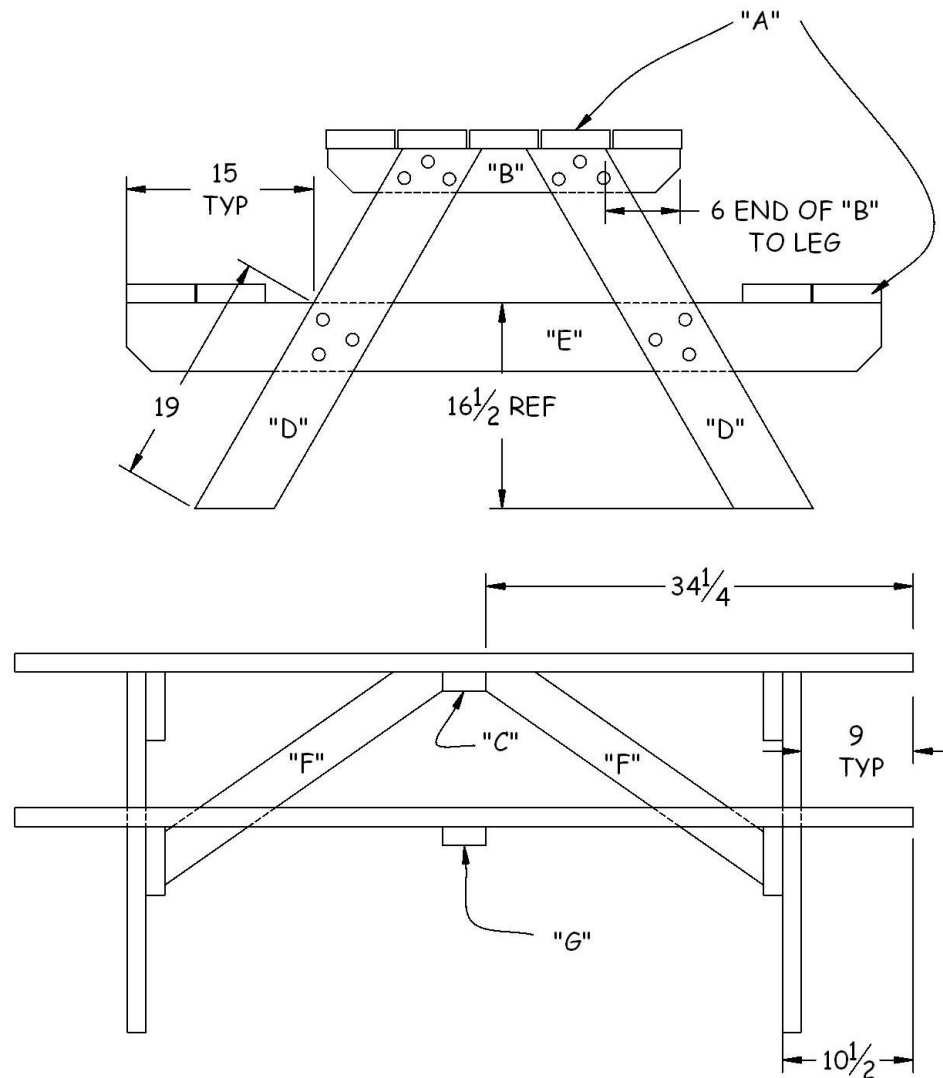

Figure 24-2. Picnic Table Assembly.
4. To build one leg assembly, place one Component “B” and one Component “E” parallel to each other on a flat surface. Lay a pair of legs (Component “D”) on top of the first two components so they approximate the arrangement in Figure 24-2. Place scrap 2x support blocks under the four intersection points.
5. Position the legs so they are inside the 6” marks on Component “B” and the cut angles of the legs are flush with the top of Component “B” (see Figure 24-2). Drill three 11/32” holes through each Component “D” into Component “B” at least 1” from the edges (to avoid component failure). Insert one 3½” carriage bolt into each of the six holes (to anchor the three pieces into position).
3. Drill two ⅛” pilot holes through the seat into each bench support, about 1” in from each edge of the seat. Attach the seat to the bench supports using 2½” deck screws at each anchor point (see Figure 24-2).
1. Position the tabletop pieces (Component “A”) centered on top the bench leg assemblies so that each end of a tabletop piece is 9” from the outside face of its associated Component “D”. Space the pieces 1/8” apart (use 8d nails) so the gaps between the boards are equal and the table top is evenly distributed across the top of the Component “B” pieces (see Figure 24-2).
4. Attach two angle supports (Component “F”) in the center of the table with two 3” screws at each end. Make sure the double-notched end is positioned up and located in the center of the table. See Figure 24-2 for proper location of pieces.